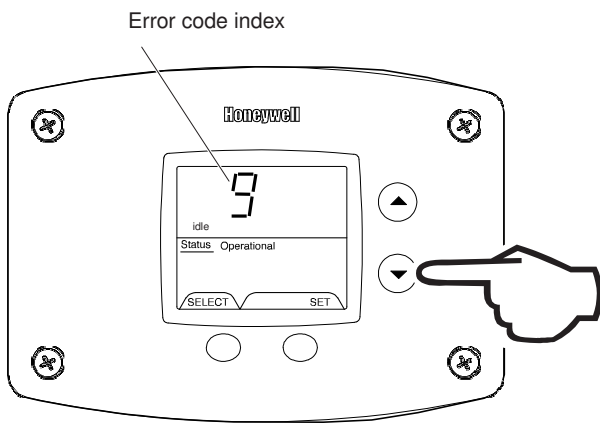

Fig. 66
4. Press the 'Temperature Down' button to change to the previous code index, code #9 (Fig. 66).